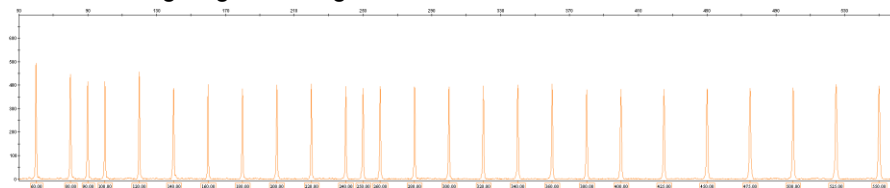

Figure 1 Electropherogram of the DNA Size Standard 550 (BTO), fragments with lengths in bp
- Presence of all fragments at: **60, 80, 90, 100, 120, 140, 160, 180, 200, 220, 240, 250, 260, 280, 300, 320, 340, 360, 380, 400, 425, 450, 475, 500, 525, and 550 bp** (see Figure 1)